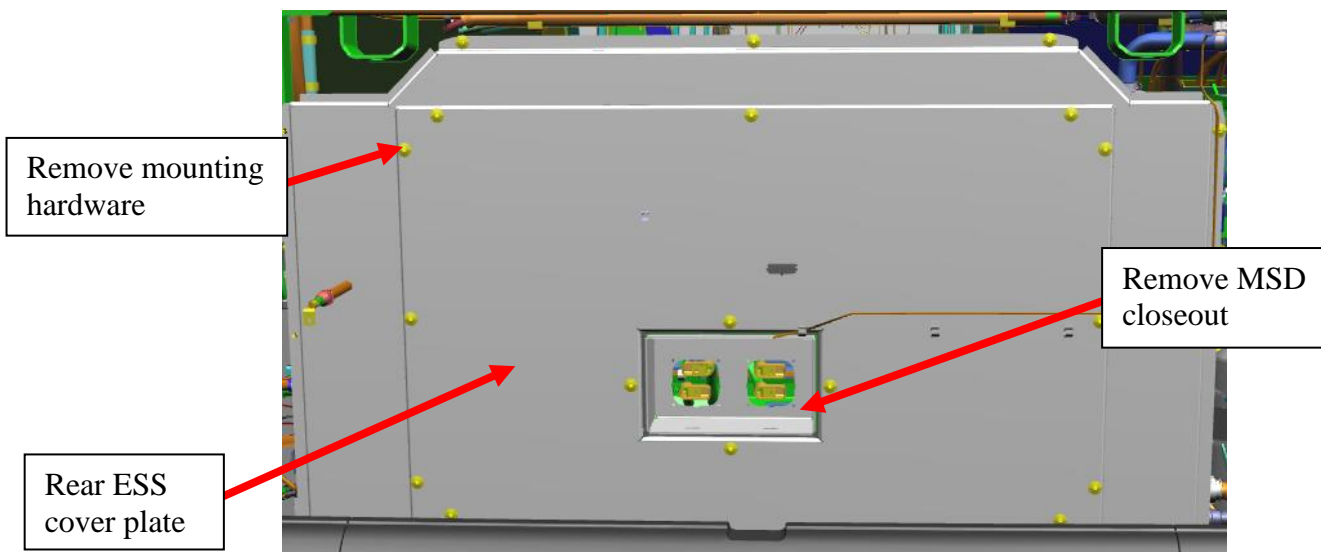

Figure 8: Rear ESS cover plate and closeout
3.1.1 Unfasten and keep hardware on rear ESS cover plate mounting hardware, bolts + washers. Keep bolts and washers. See figure 8.